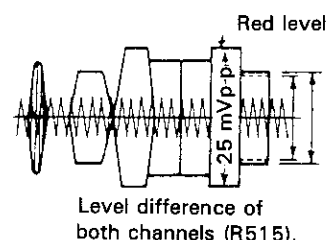

Figure 2-6.
5. Adjust R515 (record chroma level control) so that the red signal output is 25 mVp-p. (Fig. 2-6).